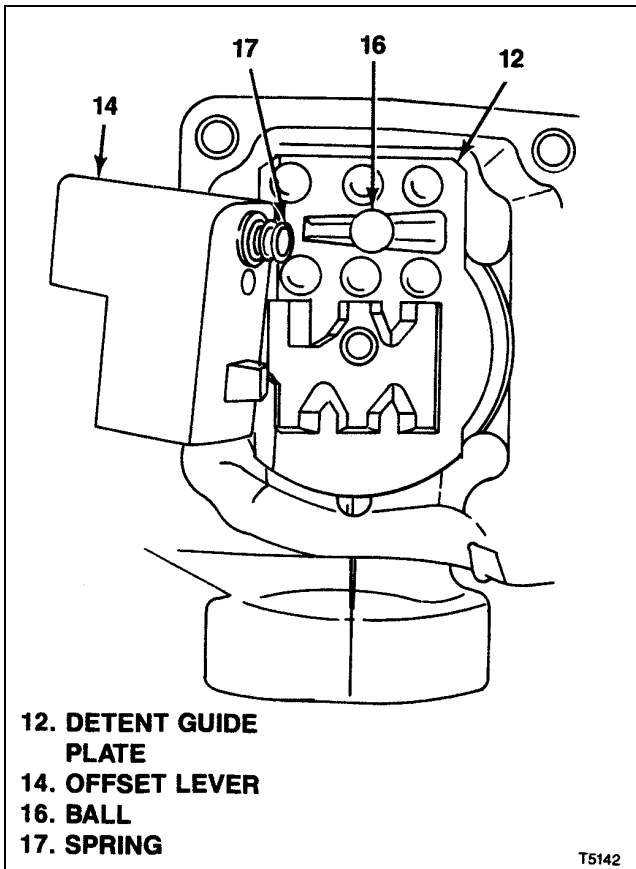

Figure 7-20. T5 STD Ball in 3rd-4th Position
- e. Lubricate detent guide plate (12) in extension (11A) or adapter (11B) with lithium grease. Position extension or adapter so that it easily can be picked up and installed on transmission.
- f. Position ball (16) in 3-4 position in detent guide plate (12) (see figure 7-20).
- g. Insert spring (17) in offset lever (14). Use petrolatum to hold in place.
- h. Position offset lever (14) (with spring) in extension (11A) or adapter (11B), engaging open end of spring (17) on ball (16) and push down on offset lever to compress spring slightly. Holding offset lever with one hand, pick up extension or adapter with the other and move parts into position at rear of transmission. Guide offset lever over end of shifter shaft (23) while moving extension or adapter up against rear of transmission case (106)-
- i. Install bolts (10) and torque to 23 lb-ft (30Nm).
- j. Align pin holes in offset lever (14) and shifter shaft (3) and drive in roll pin (9).